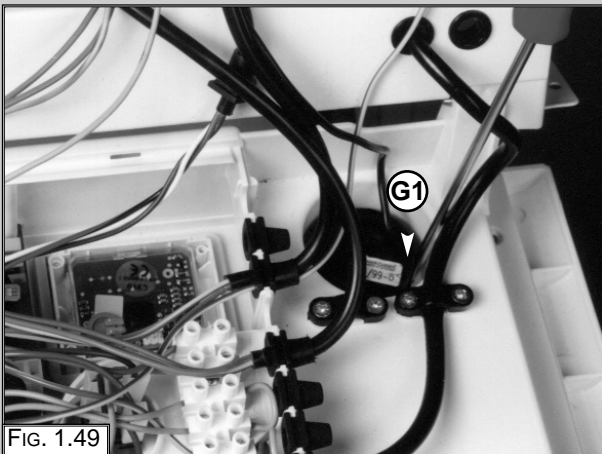

FIG. 1.49
2. Ease the pressure gauge "G1" through the control panel from the rear (FIG. 1.49);